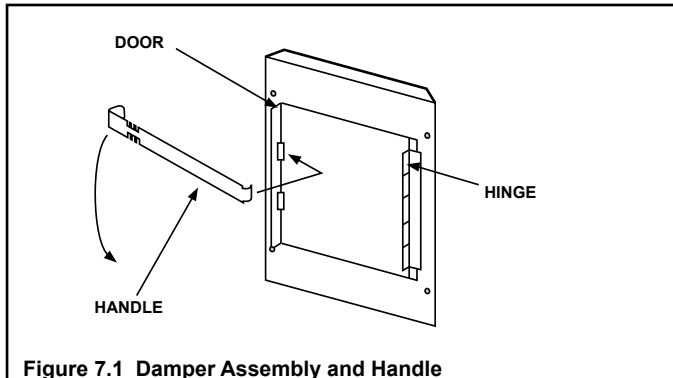

Figure 7.1 Damper Assembly and Handle
- Locate door hinge toward back of appliance (see Figure 7.1).